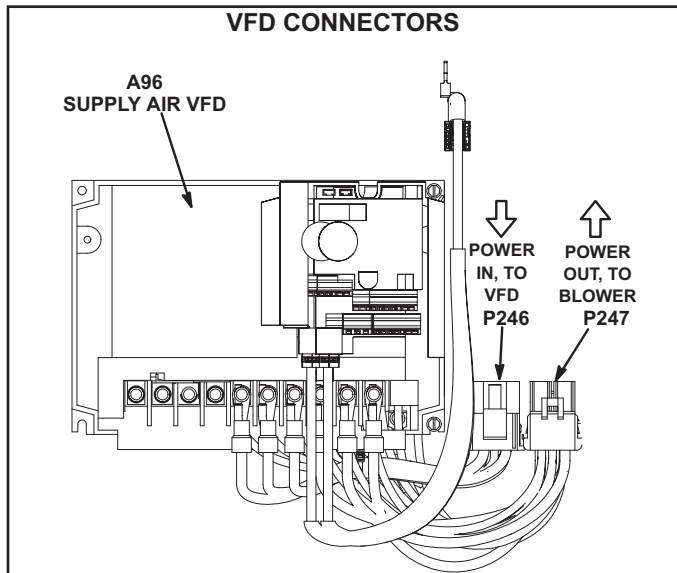

FIGURE 38
- 2 - Locate P246 and P247 connectors near the VFD. See figure 38.